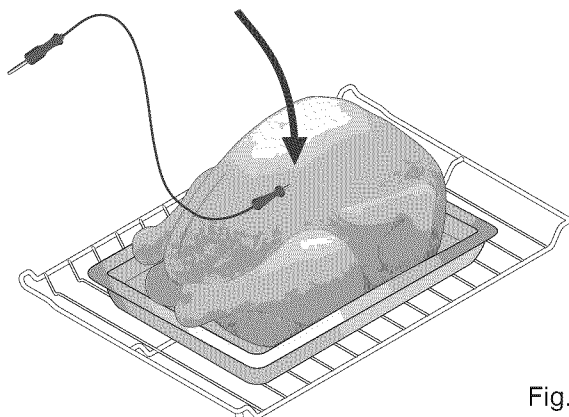

Fig. 1
- Always insert the probe so that the tip rests in the center of the thickest part of the meat. Do not allow the probe to touch bone, fat, gristle or the pan. -Fig. 1-.